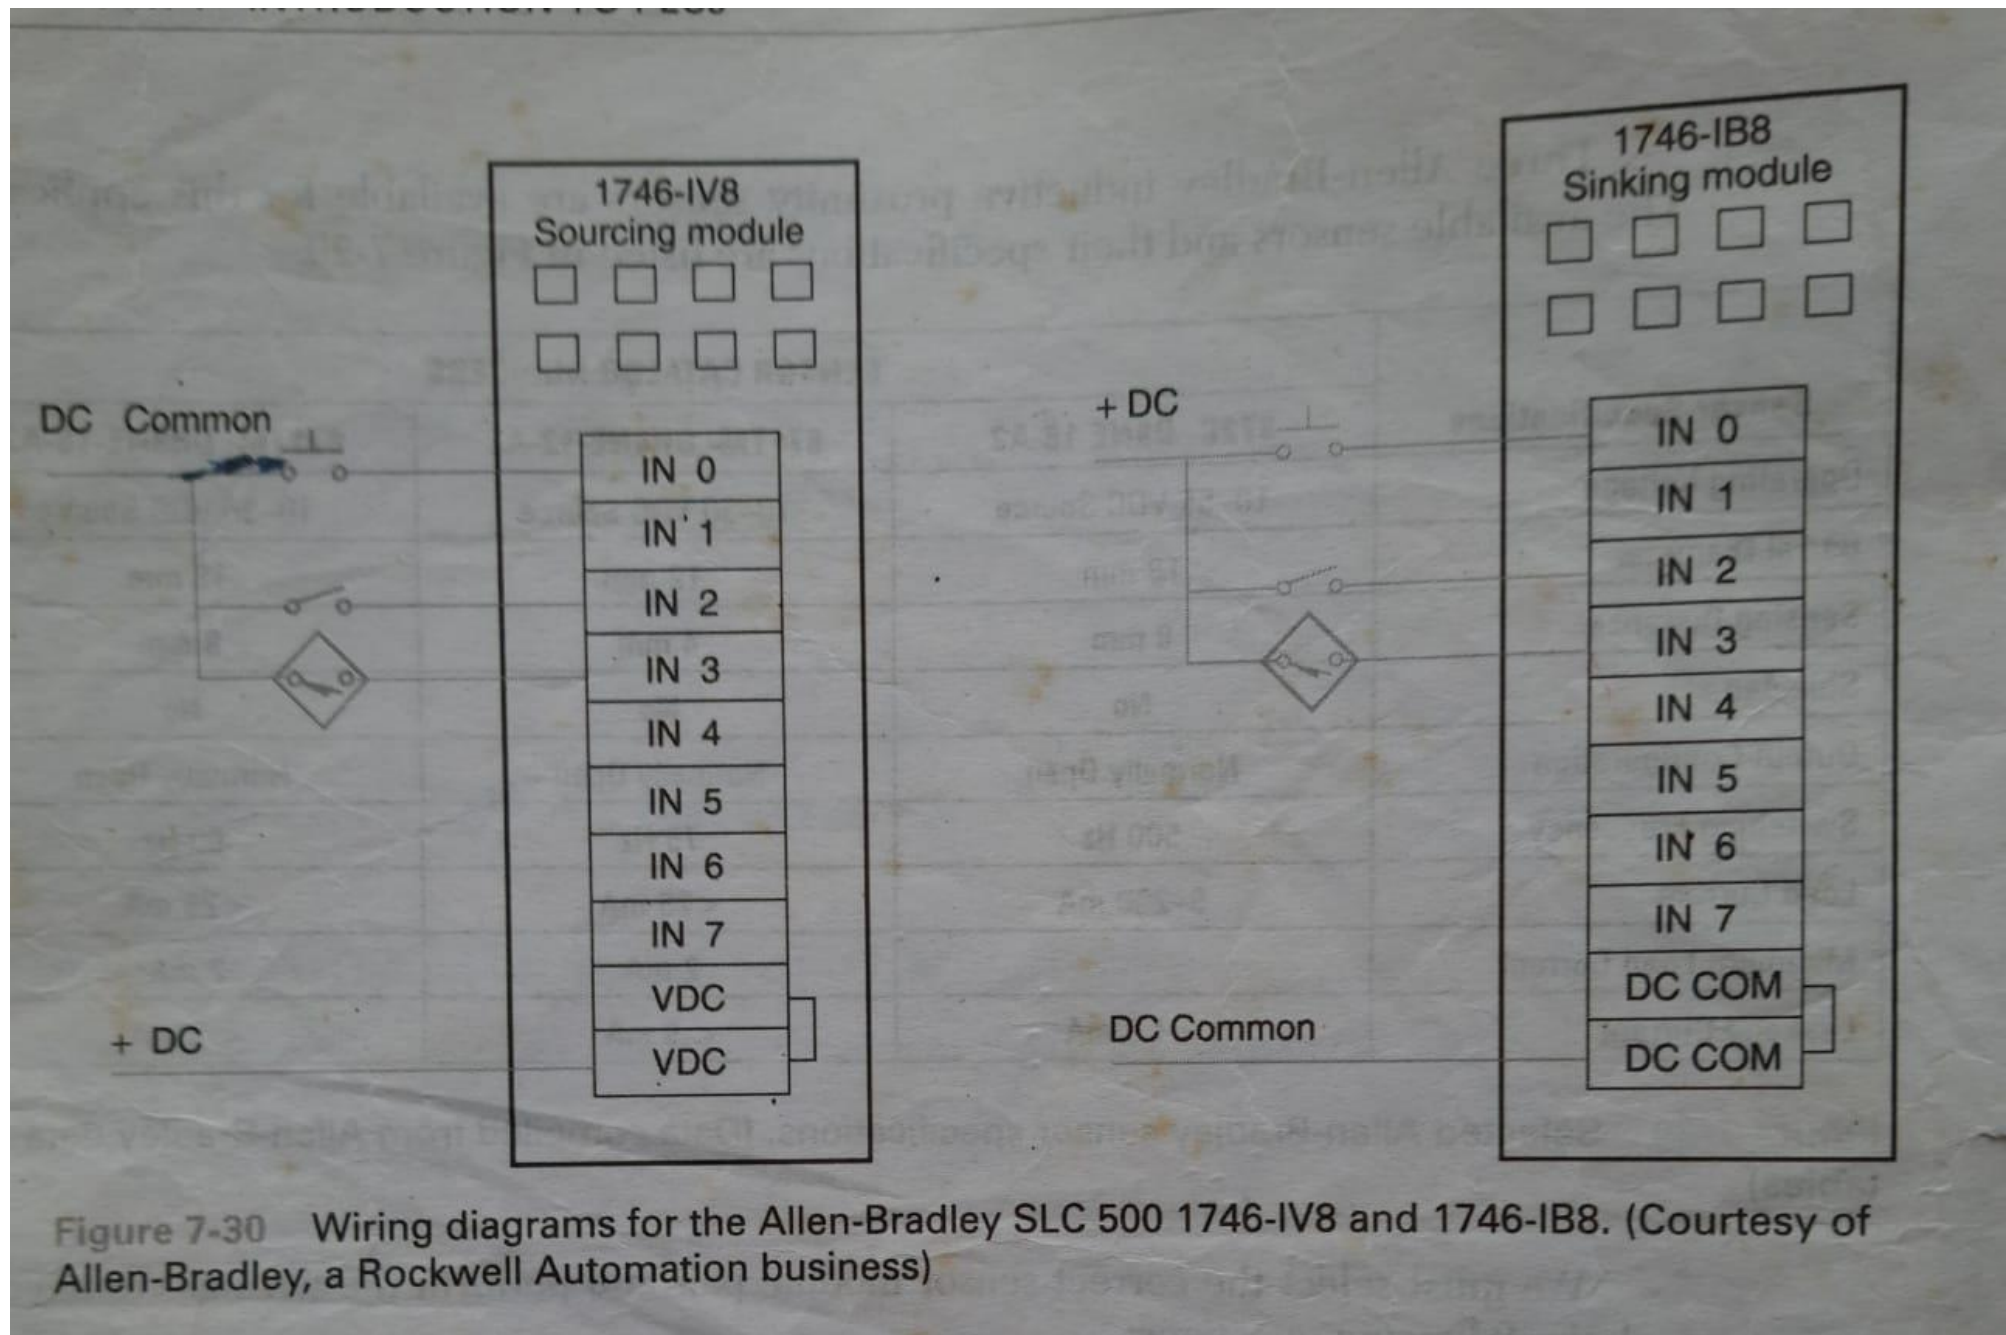

Figure 7-30 Wiring diagrams for the Allen-Bradley SLC 500 1746-IV8 and 1746-IB8. (Courtesy of Allen-Bradley, a Rockwell Automation business)
3. We have sinking and sourcing input modules available, but do we have both sinking and sourcing sensors available? No, all available sensors are in the sourcing configuration. From our lessons in the text we have learned that if we have a sourcing sensor, we must choose a sinking input module. For this application we will choose the 1746-IB8, a sinking input module. Always verify wiring diagrams before choosing one. Compare input module wiring with the sensor's wiring diagrams, as in Figure 7-30.